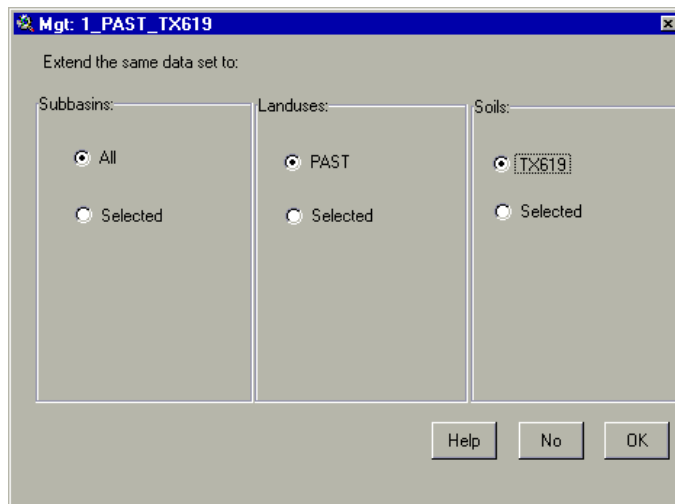

Figure 12.70
- If the user saves the modified values, once the values are saved for the HRU (by clicking **OK** in Step 3), a new dialog box is displayed allowing the user to copy the modifications to other HRU data sets (Figure 12.70).